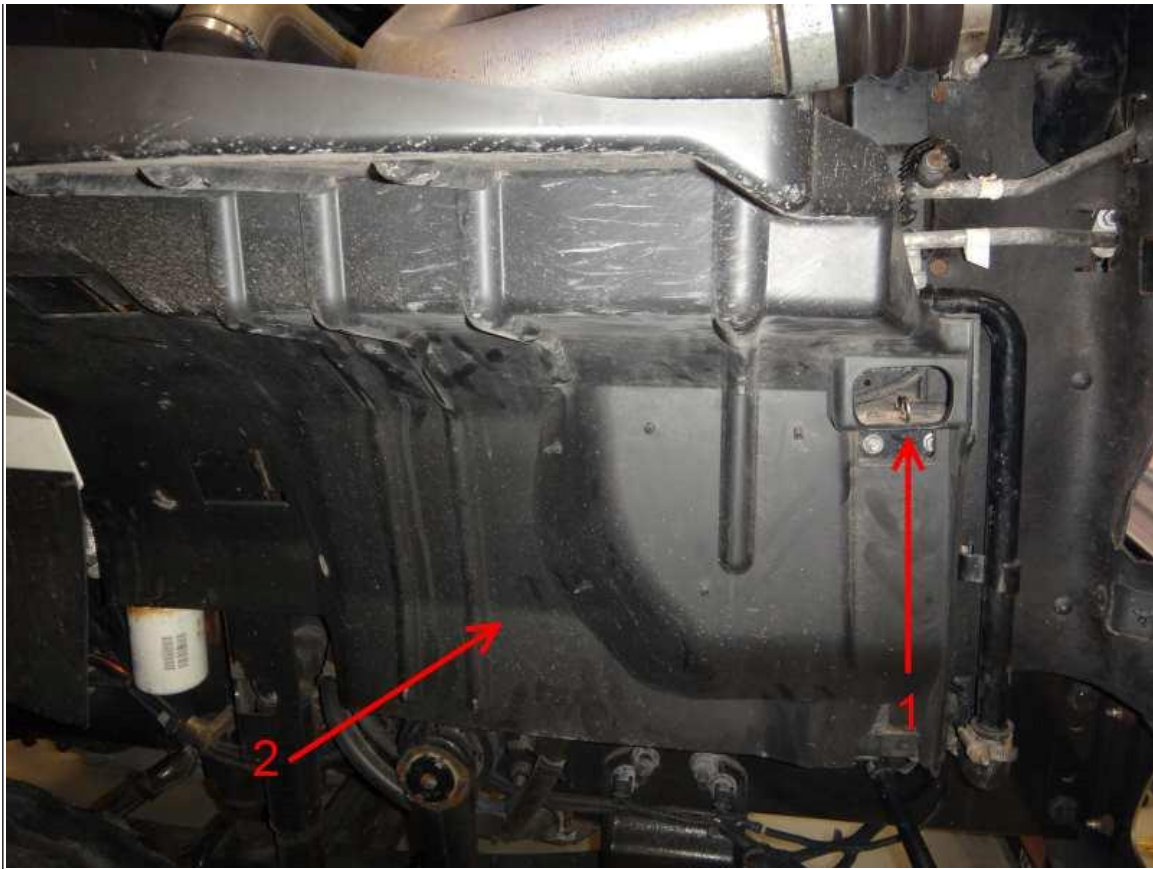

**Figure 23: Dearation Tank Hoses and CAC Pipe**
27. Install the HP CAC pipe (**Figure 23**, Item 5). Torque to 6 lb-ft (8 N-m).